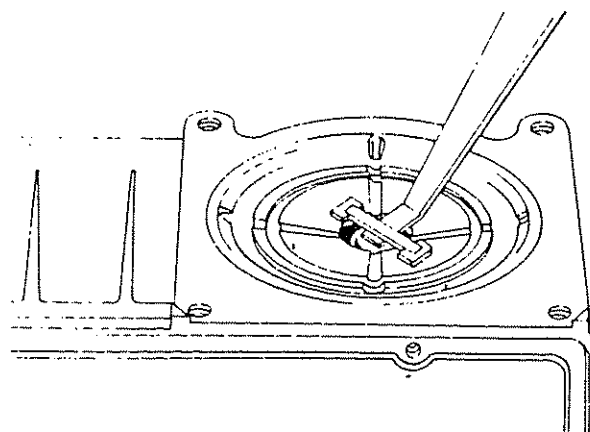

FIG. 36 — CHECKING PUMP INTAKE BALL VALVE CLEARANCE
2. If ball type, check ball clearance under retaining bar is proper (Fig. 36).